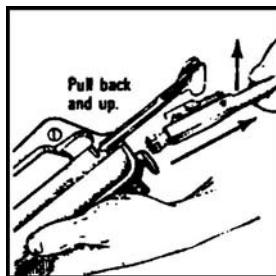

Figure 10. Removing the bolt carrier and bolt.
- h. Remove the bolt carrier and bolt (Figure 10).